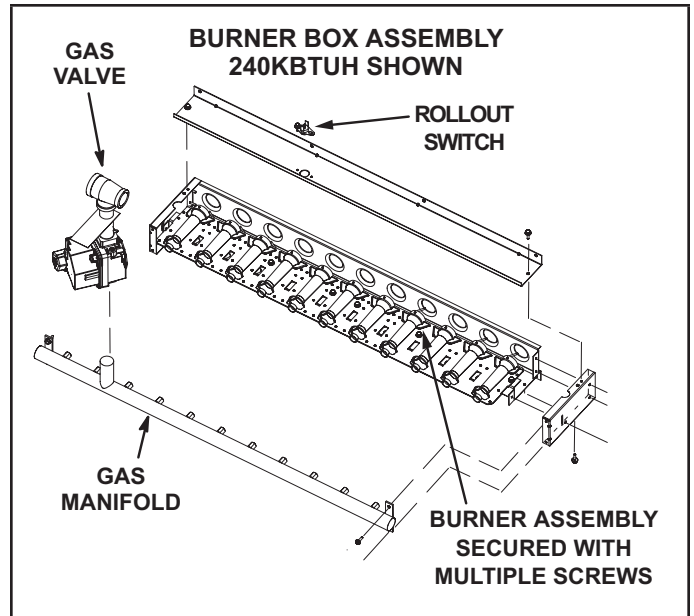

FIGURE 38
- 3 - Remove screws securing burner assembly to burner support and remove assembly. See FIGURE 38. Clean as necessary.
This normally closed switch opens on a temperature rise. The roll out switch is factory-set and is not field adjustable. See FIGURE 38.